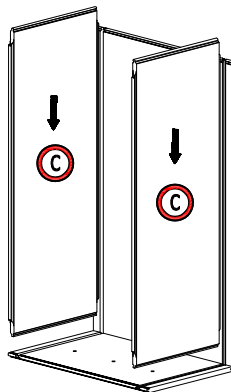

Figure 3
3. Installing the Top and Bottom: Insert top and bottom (C) into grooves of back panel (B) & side panel (A). Press down until they click into place. (Figure 3)